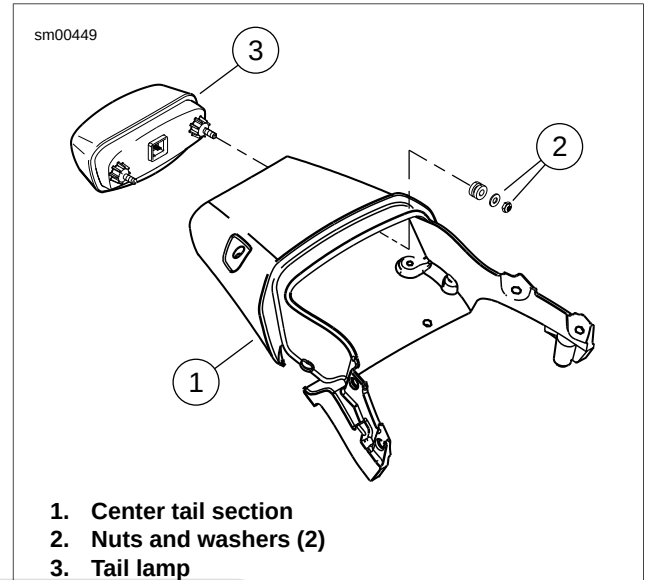

Figure 7-64. Tail Lamp Assembly: Ulysses
3. See Figure 7-64. Remove nuts and washers (2) securing tail lamp (3) to center tail section (1) and remove tail lamp.
1. See Figure 7-64. Install tail lamp (3) with nuts and washers (2) to the center tail section (1).